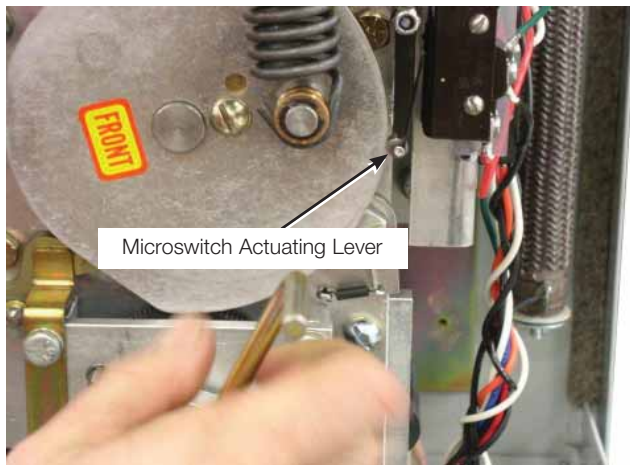

Figure 46.
- ii. While cranking, ensure that the Quick Close microswitch rides along the cam throughout the cycle. If the microswitch does not ride on the cam, correct it by carefully bending the microswitch actuating lever into position. Refer to Figure 46.